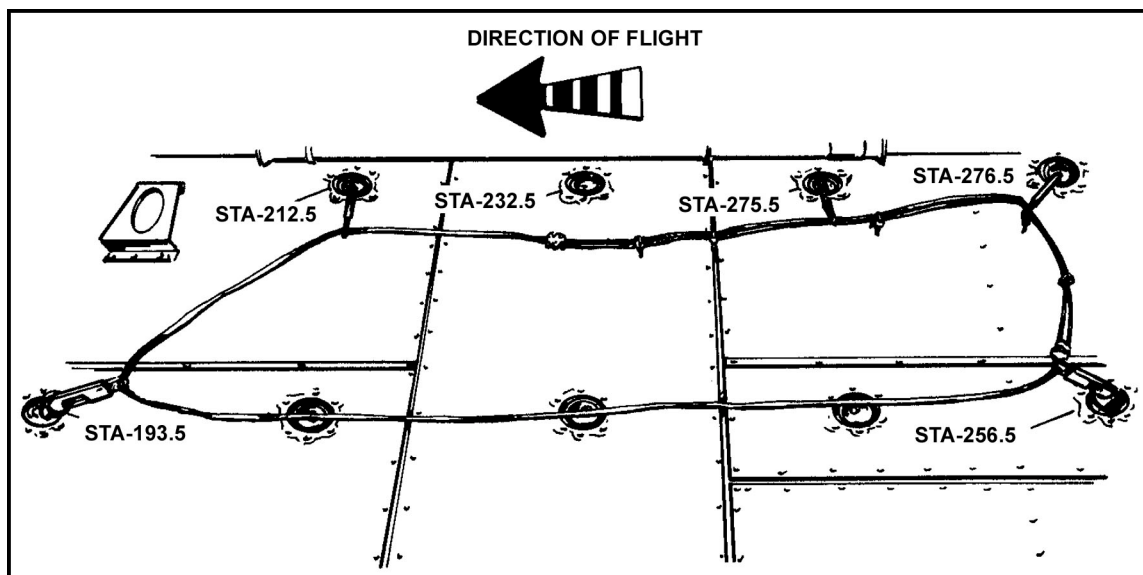

Figure 18-11. CH/HH-3 anchor line cable.
(1) Install the oval-shaped anchor line cable on the starboard side of the aircraft's floor using the tie-down fittings at station number 193.5 (right of center) as the port side forward attachment point, station number 212.5 as the starboard side forward attachment, station number 256.5 as an intermediate starboard side attachment point, and station number 276.5 as the starboard side rear and port side rear attachment points (Figure 18-11).
(2) The anchor line cable is constructed of 1/4-inch diameter, 6,400-pound test steel cable. Thread the anchor line cable through four static line snap hooks, where the static line is normally attached. These static line snap hooks connect the anchor line cable to the tie-down fittings. Complete the oval by overlapping both ends of the steel cable, then by securing the overlap with four cable clamps spaced intermittently between the swaged cable ends.
(3) Manufactured cables have the date of initial manufacture and weight testing capacity (2,500 pounds) permanently marked on the starboard side forward static line snap hook. Inspect cables each time the anchor line cable is installed for jumping. Remove from service cables showing excessive wear, corrosion, or more than three broken strands per inch. Weight test cables to a 2,500-pound capacity within each 12-month calendar period. (For example, cables weight tested on 1 January will be due weight testing by 31 January the following year.) Document annual weight testing on a DD Form 1574, which is attached to the cable.